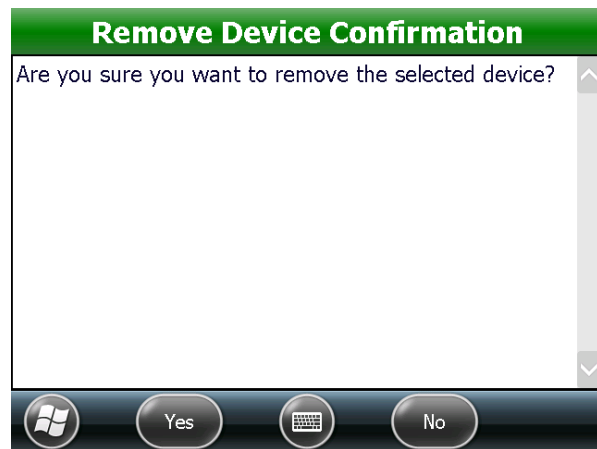

Figure 99: Remove device
*Result: A screen displays as shown in Figure 99, asking for confirmation.*